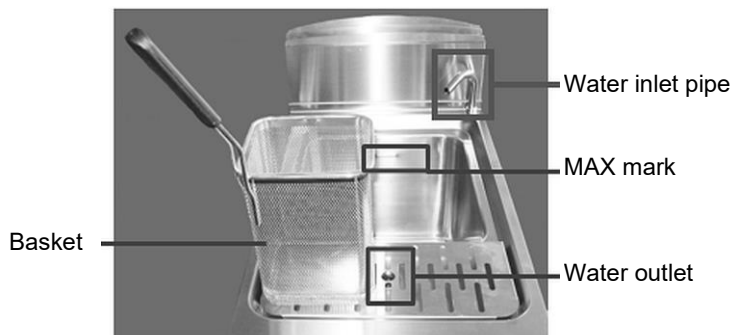

Fig. 12
1. Fill the basin with water via the corresponding water inlet tap (Fig. 13) on the control panel up to the MAX mark (Fig. 12).